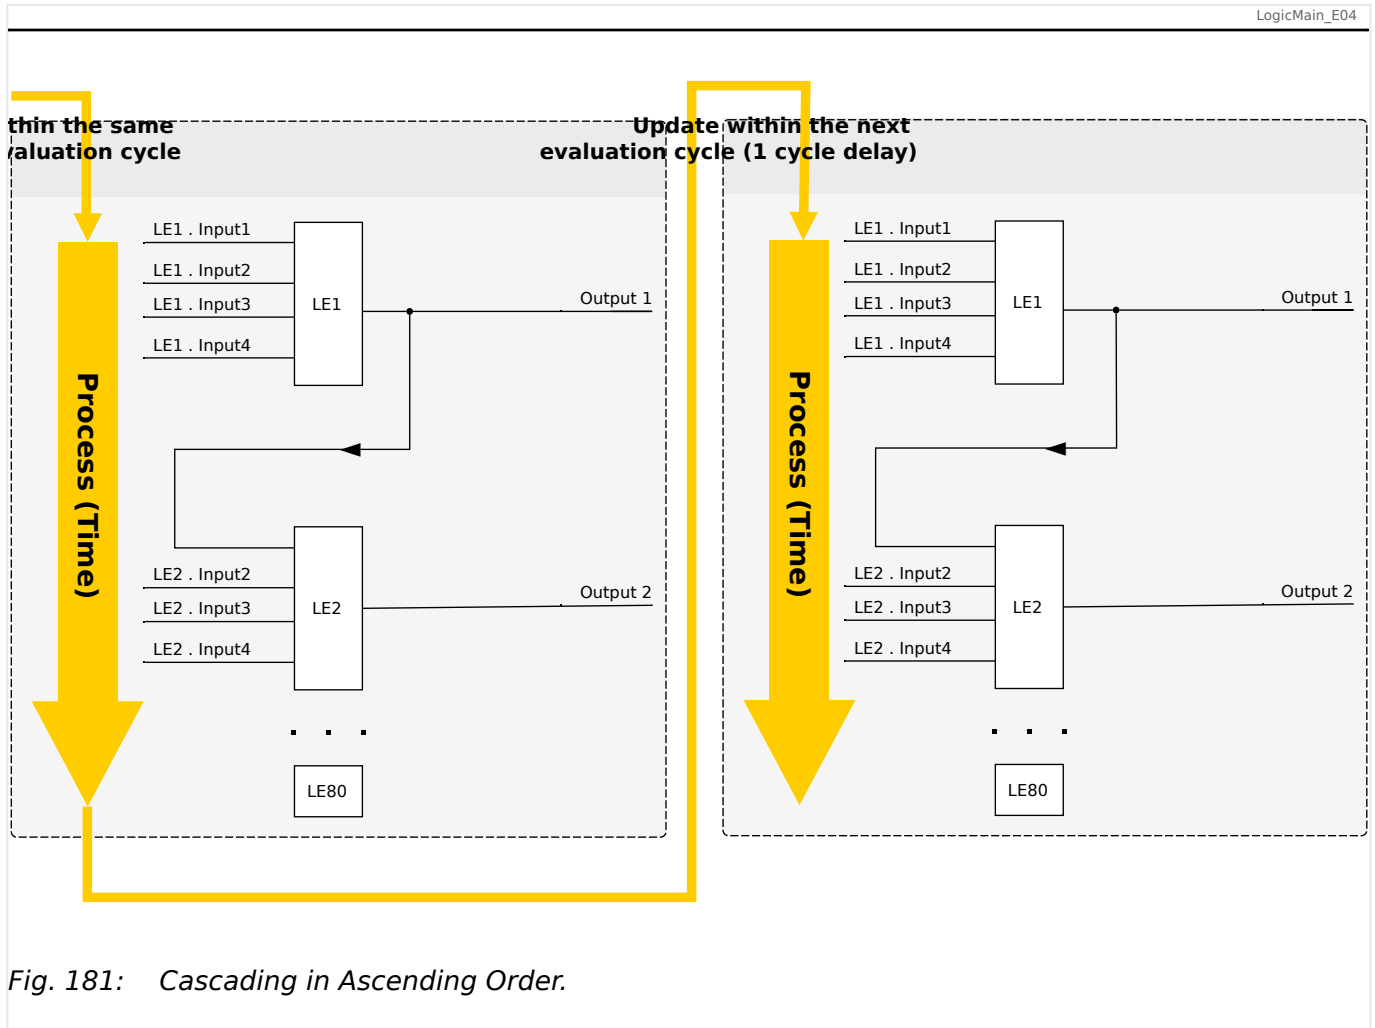
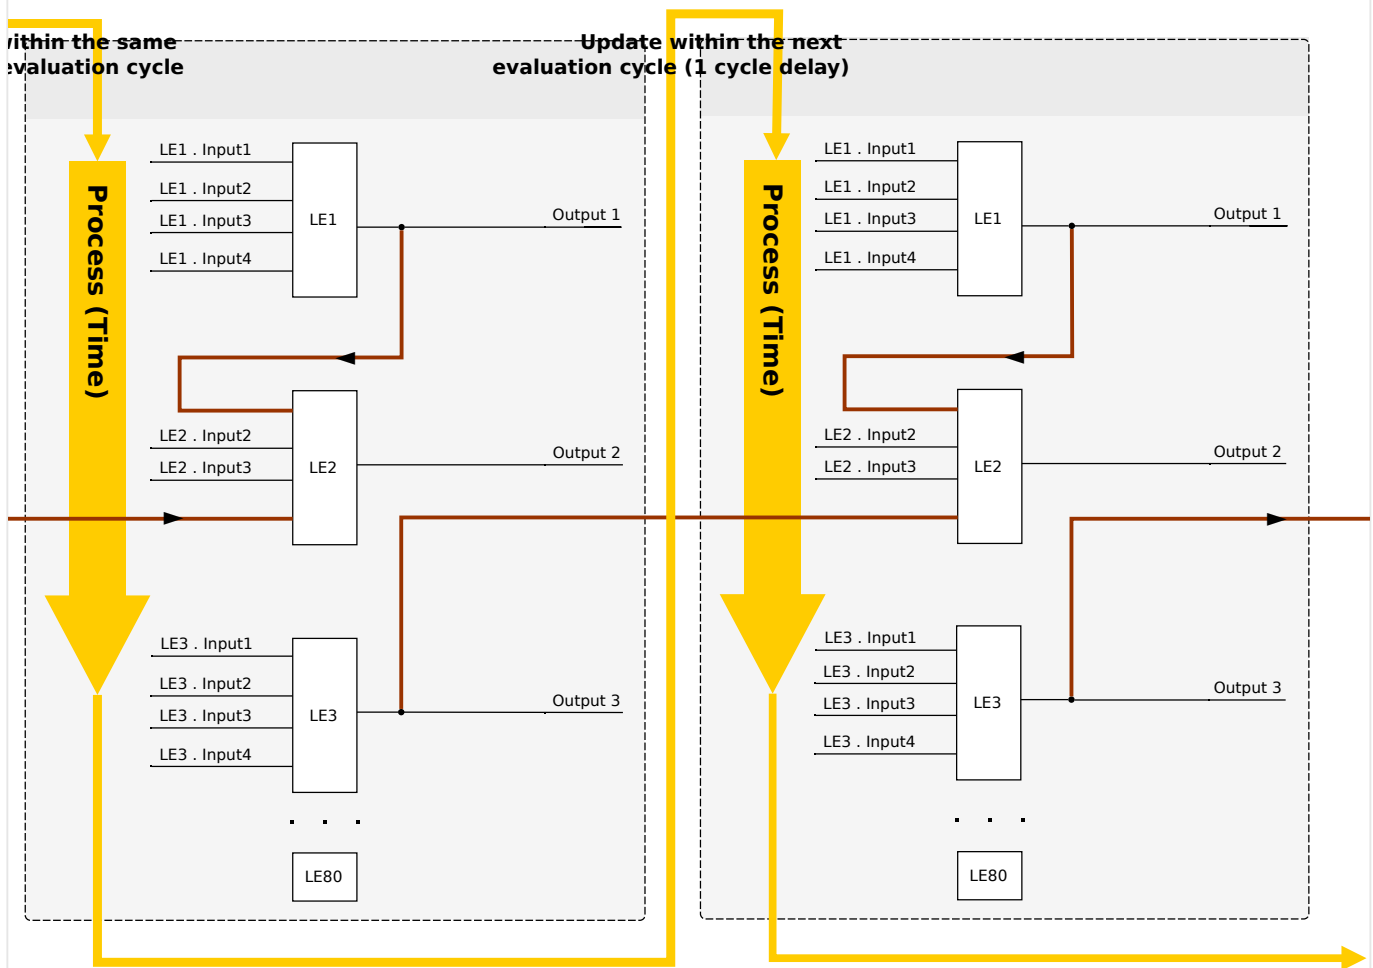

Fig. 181: Cascading in Ascending Order.
Fig. 182: Cascading in Descending Order.
- **Ascending** sequence means that some output is fed into the input of a logic equation with **higher** number. For instance, diagram ↪Fig. 181 below shows an example where the result of Logic Equation LE1 is used as an input of Logic Equation LE2.
- **Descending** sequence means that some output is fed into the input of a logic equation with **lower** number. For instance, diagram ↪Fig. 182 shows an example where the result of Logic Equation LE3 is used as an input of Logic Equation LE2.
Both ascending and descending sequences may be used and combined one with the other, with no immediate difference. However, due to the evaluation of all equations in ascending order the actual run-time values that are fed in at the input of an equation will have a different “age”, as is shown in ↪Fig. 181 and ↪Fig. 182 below.
In the example shown in Fig. 182 above, “Logic Equation 2” uses the output states of two other equations, “Logic Equation 1” and “Logic Equation 3”. The result of “Logic Equation 1” is used in ascending order and has therefore been evaluated within the same process cycle. The result of “Logic Equation 3” is used in descending order and has therefore been evaluated in the previous process cycle.